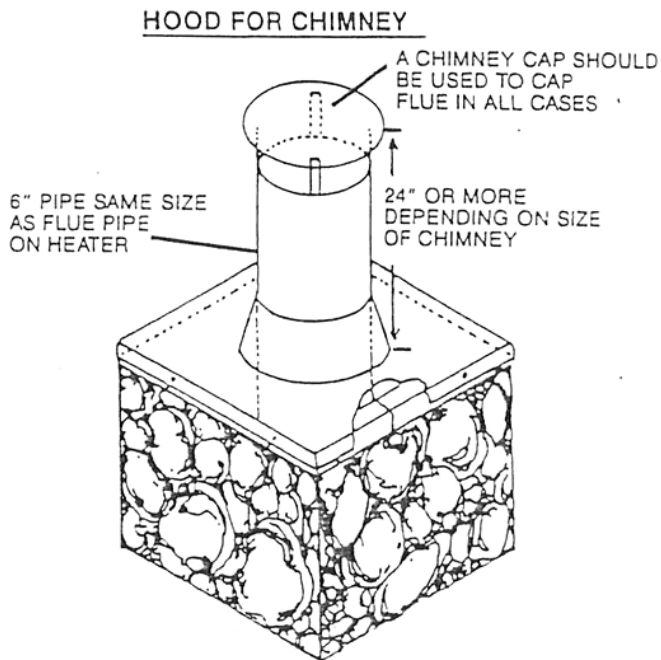

Fig. 3
- b. In case of a flat roof, extend chimney 4 feet to prevent downdrafts. If impractical, use a chimney cap. See Figure 3.
The flue cap must not restrict the outlet of the chimney. Even though an adequate draft may be present at the heater, the products of combustion may not be removed fast enough to allow for complete combustion. See Figure 3.